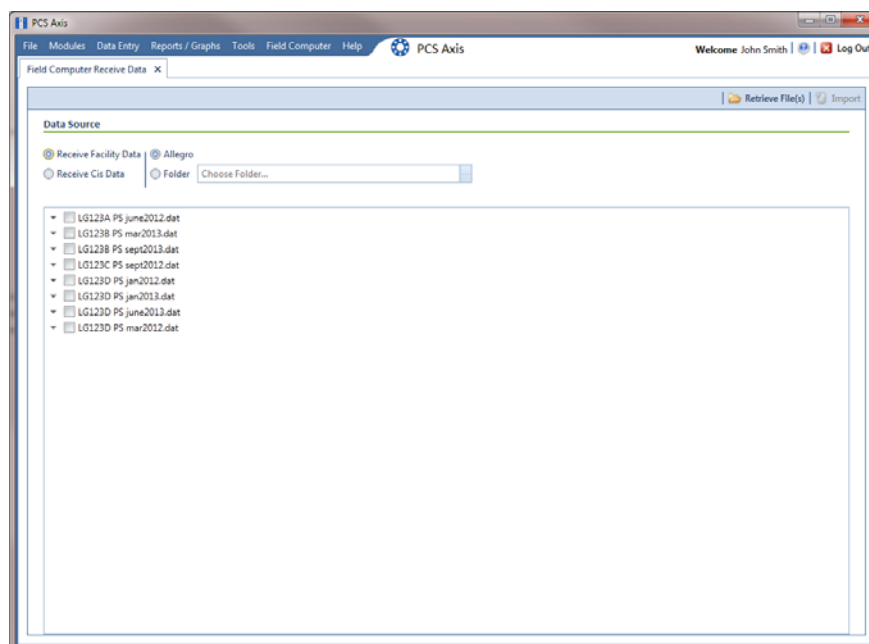

Figure 12-17. Field Computer Receive
- 2 Click **Field Computer** > **Receive** to open the *Field Computer Receive Data* window (Figure 12-17).